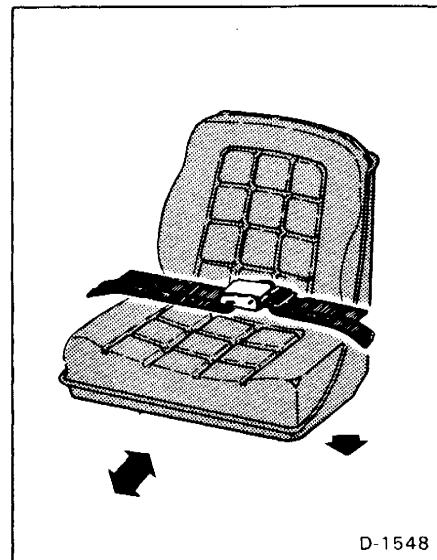
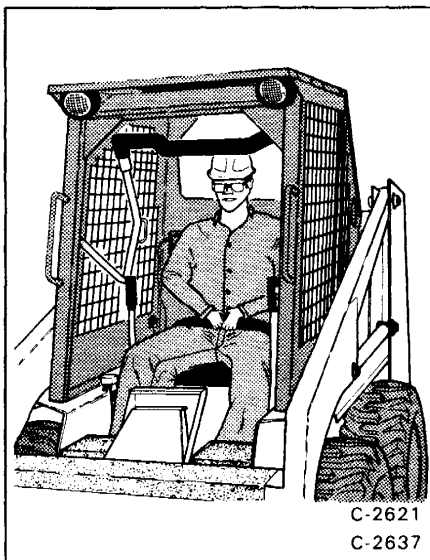
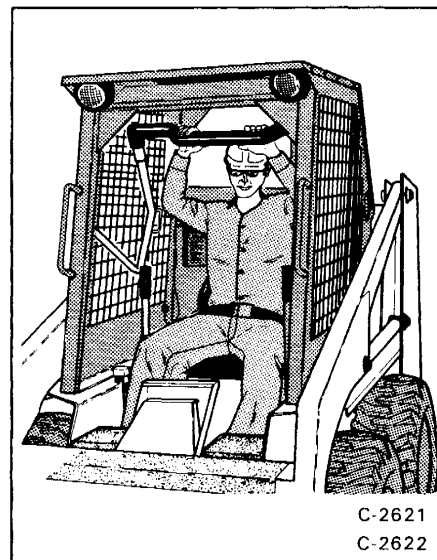

Fig. 2 Seat Adjustment
Fig. 3 Fasten Seat Belt
Fig. 4 Lower Seat Bar
2. Adjust the seat position for easy operation of the loader (Fig. 2). Adjust and fasten the seat belt (Fig. 3) and lower the seat bar (Fig. 4, 5 & 6). Check that the parking brake is engaged before you start the engine.